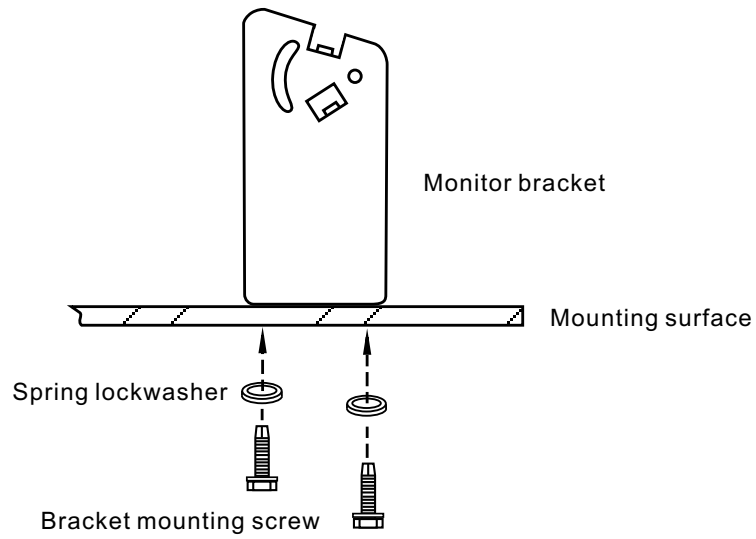

Fig.4 Attaching the monitor to the dash
1. Attach monitor inside vehicle in a location convenient to the driver (e.g. centre of dash, overhead or in dash) (Fig.4)